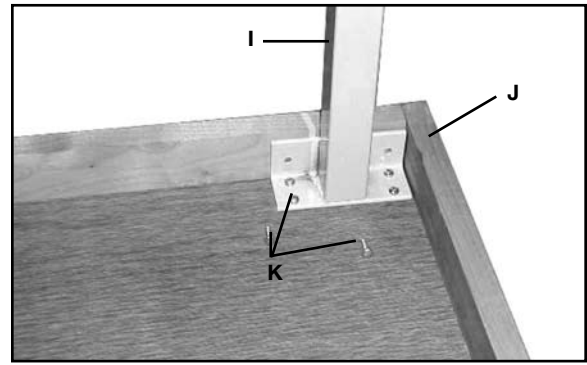

FIG. 11
7. Position the table leg (I) to the closed in corner of the extension table (J) as shown in Fig. 11.
8. Attach the table leg to the table board with six 5/8" long wood screws (K). Repeat this process for the remaining leg.